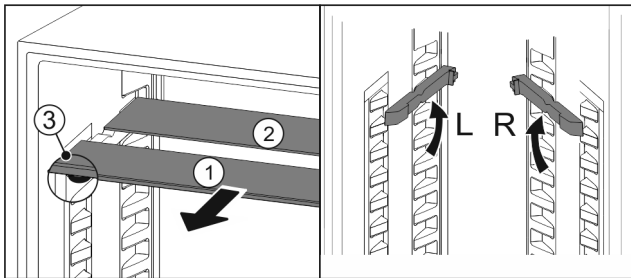

Fig. 85
- ▶ Pull the glass panels out Fig. 85 (1) from the front, one at a time.
- ▷ The glass panel Fig. 85 (1) and trim strip are at the front.
- ▷ The stops Fig. 85 (3) point down.